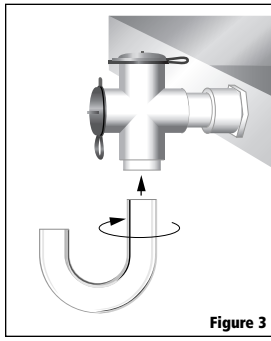

Figure 3
3. Glue long end of U-Bend into bottom of Cross facing direction required, at least 5° off center (**Figure 3**).